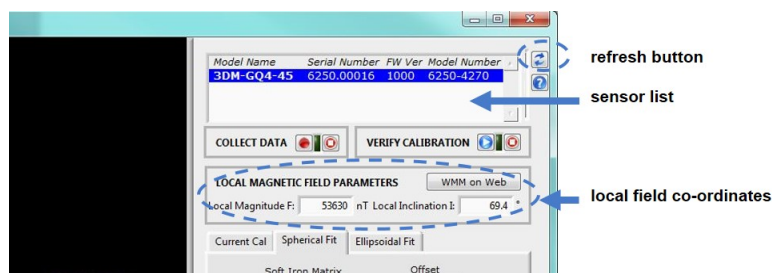

Figure 24 - Sensor Menu
2. Enter the Local Magnetic Field information (Figure 24 - Sensor Menu) for the sensor to account for magnetic influences inherent to the sensor's geographic location on the Earth. As needed, use the WMM on Web button to access a World Magnetic Model calculator on the British Geographic Survey website. This site, and similar sites, generate Local Magnitude F and Local Inclination I values based on latitude and longitude entries. In the calculator solution, these values will be found in row MF, column F and row MF, column I, respectively.
- The sensor should automatically appear in the sensor list (*Figure 24 - Sensor Menu*). If not, use the Refresh button to query it and then select the sensor.